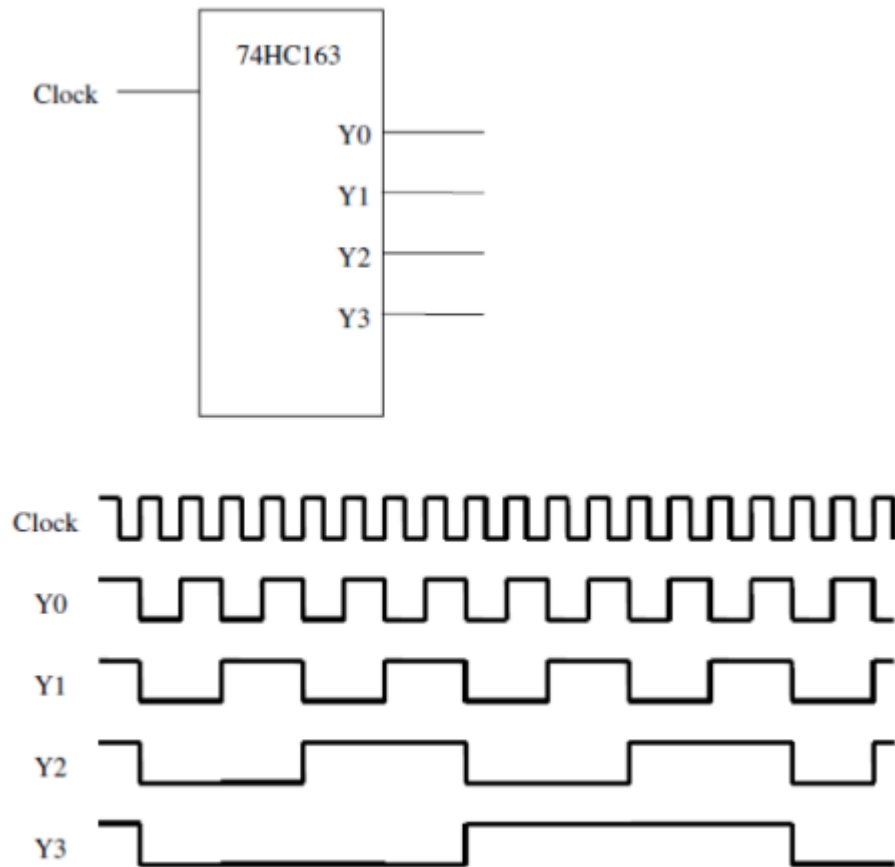

Figure 1. About information 74HC163 gates as using 4-bit counter
1. Examine the document “**LogicGates.pdf**” and search for the datasheets of gates on the internet that you find useful for your design. After studying the datasheets finalize your design by deciding which gates you will use. Also, study “**LEDcircuit.jpg**” to understand how to drive a LED circuit. Some useful information about **74HC163 4-bit counter** is given in **Figure 1**. Please study **74HC163 4-bit counter's datasheet** for your design.